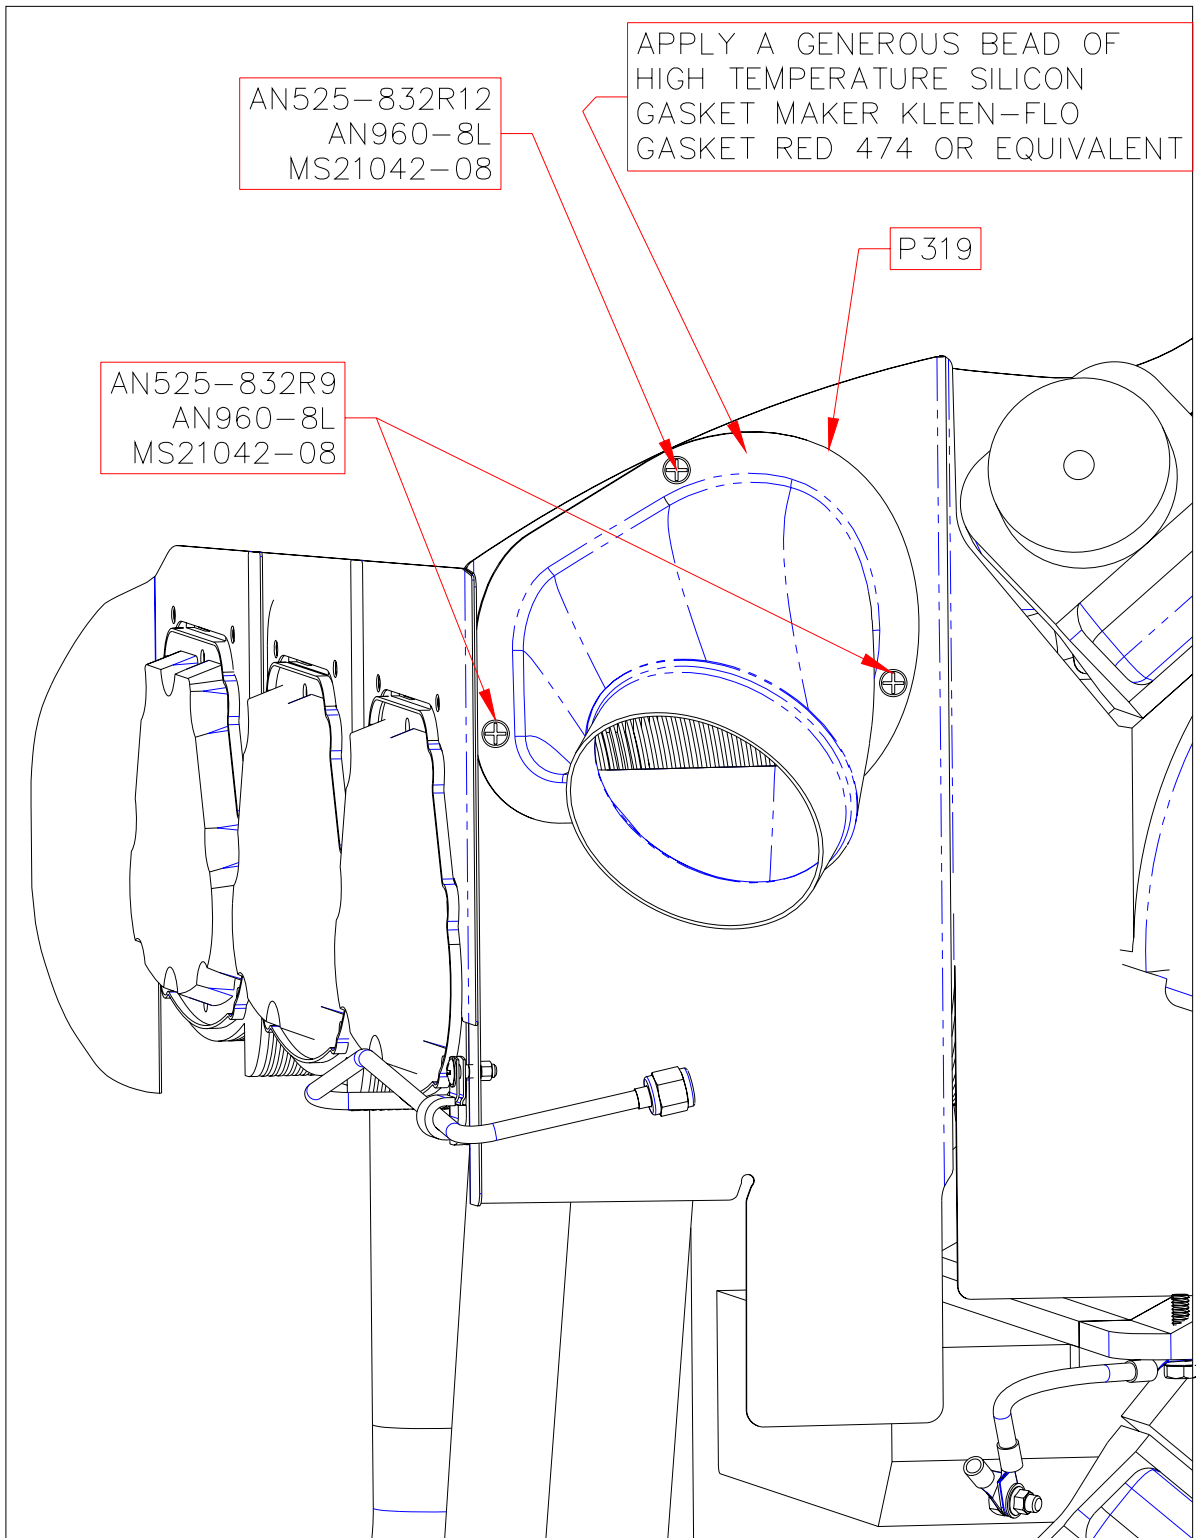

FIGURE 5 P319 LOCATION AND INSTALLATION DETAILS
7. Locate P319 Nozzle on aft port baffle plate as indicated in Figure 5 and mark the exterior rim of the flange onto the baffle plate. Offset the resultant outline by approximately ½". Cutout the material interior to this outline to form an opening for the P319 Nozzle. Be certain to smooth and deburr this edge. Mark and drill off holes for mounting hardware in P319 and the baffle plate. Apply a generous bead of gasket maker as given in Figure 5. This gasket material should be used to smooth any abrupt transitions between the baffle plate and the P319 nozzle.